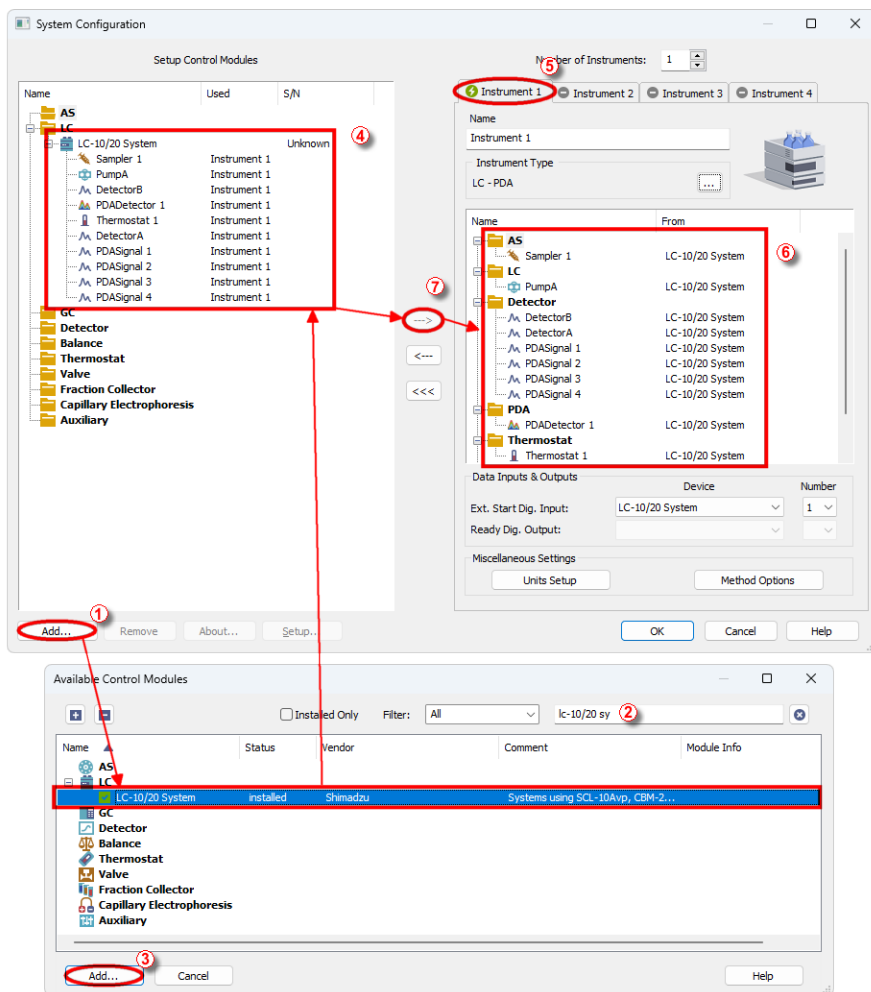

Fig. 3: System Configuration
- Press the **Add** button ① (see **Fig. 3** on pg. 8.) to invoke the **Available Control Modules** dialog.
- You can specify the searching filter ② to simplify the finding of the driver.
- Select the **LC-10/20 System** item and press the **Add** ③ button.